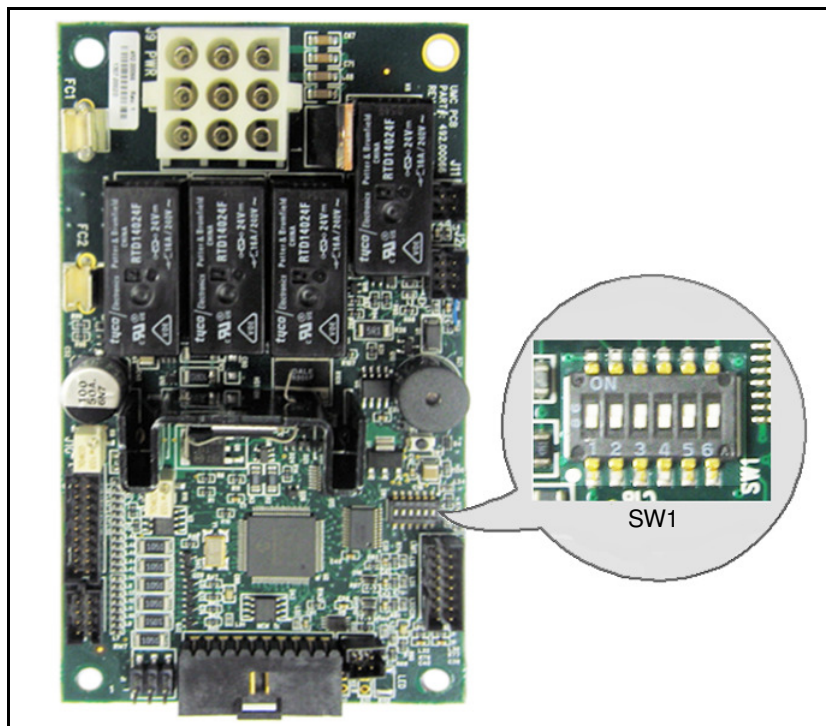

Fig.17
- 2) Locate switch SW1 on the TOP side of the PCBA (see Fig.17).